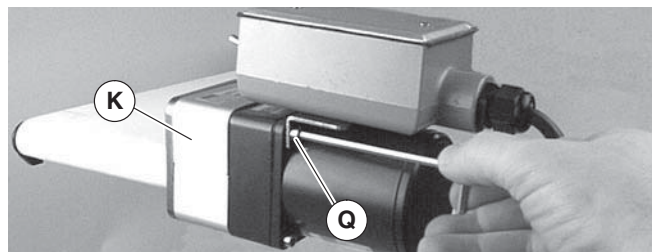

Figure 8
10. Insert top cover (Figure 8, item K) into bottom cover. Attach top cover with two (2) top screws (Q). Tighten to 45 in-lb (5 Nm).